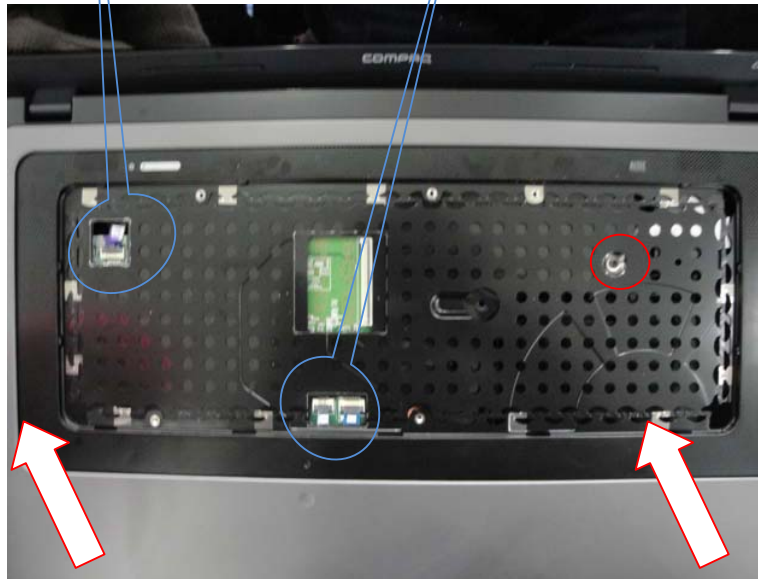

Fig.3
3. Loosen the screws and breakaway the logic upper along the arrowhead. (Fig.3)